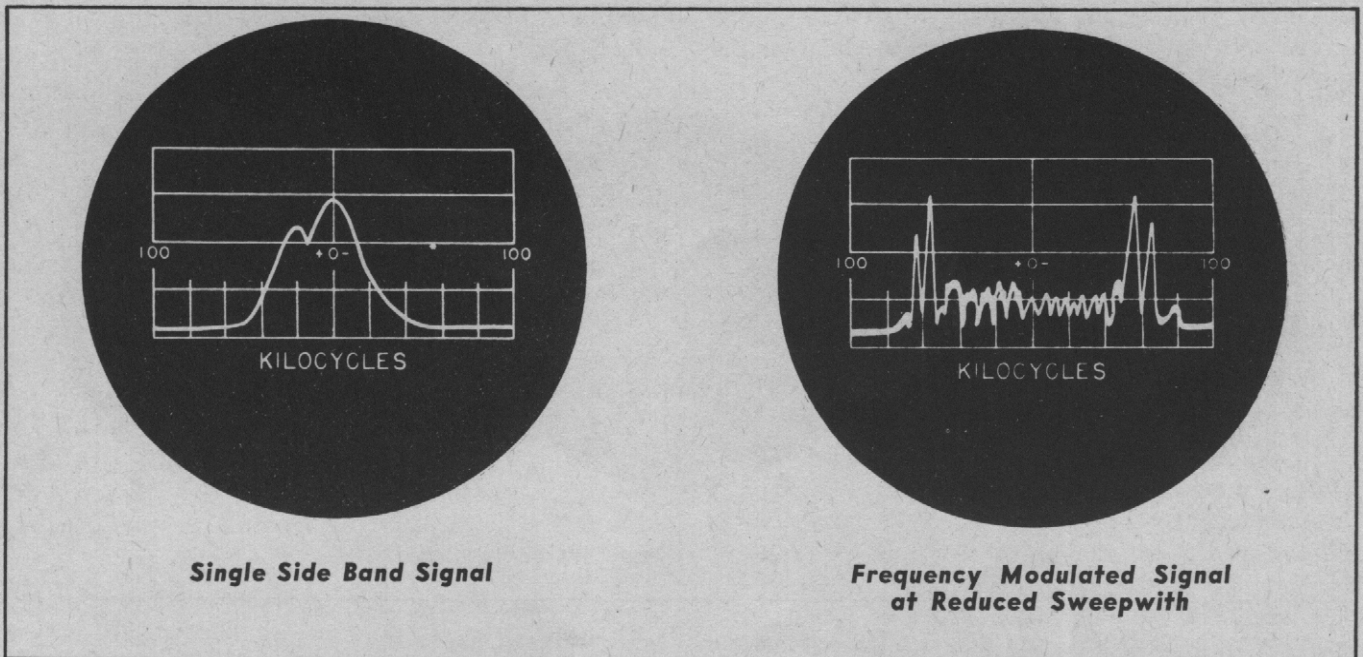

Figure 9. Typical Patterns of Single Side Band and FM Signals
(3) *Single side-band modulation* appears as two carriers of slightly different frequency. (See below: "Signal Interferences"). Refer to Figure 9.
(5) *A speech or music modulated FM signal* appears as many deflections spreading over a variable bandwidth. During periods of audio silence a single carrier appears. Refer to Figure 9.